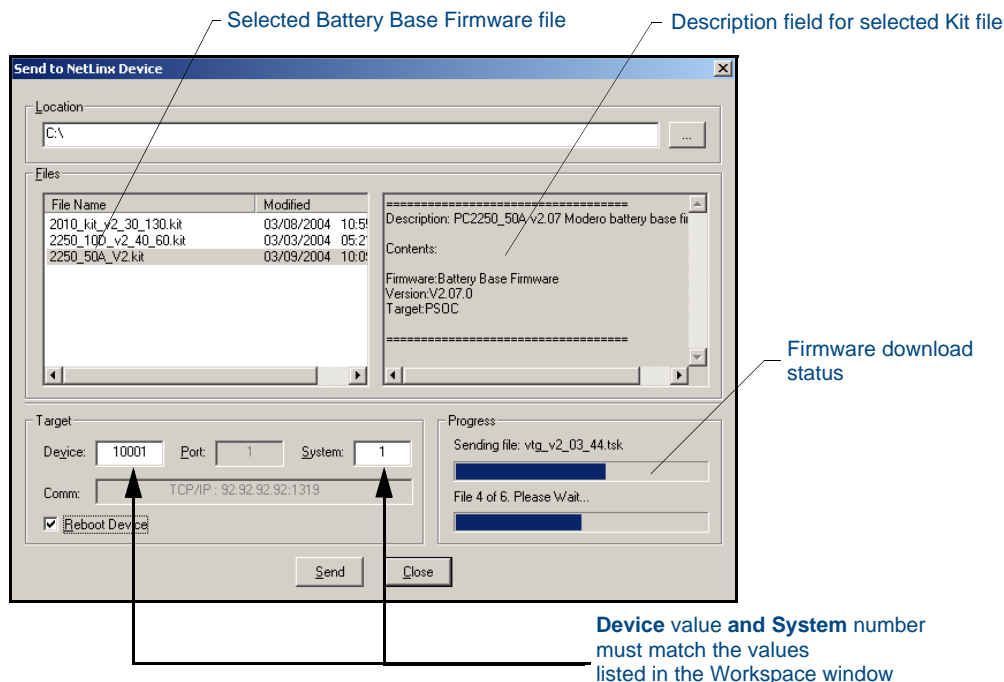

FIG. 81 Send to NetLinx Device dialog (showing NXA-BASE/B firmware update via IP)
6. From within Studio, select **Tools > Firmware Transfers > Send to NetLinx Device** from the Main menu to open the Send to NetLinx Device dialog (FIG. 81). Verify the panel's System and Device number values match those values listed within the System folder in the **OnLine Tree** tab of the Workspace window.
7. Select the battery base's Kit file (*ending in VXX.kit*) from the **Files** section (FIG. 81).
10. Click **Send** to begin the transfer. The file transfer progress is indicated on the bottom-right of the dialog (FIG. 81).